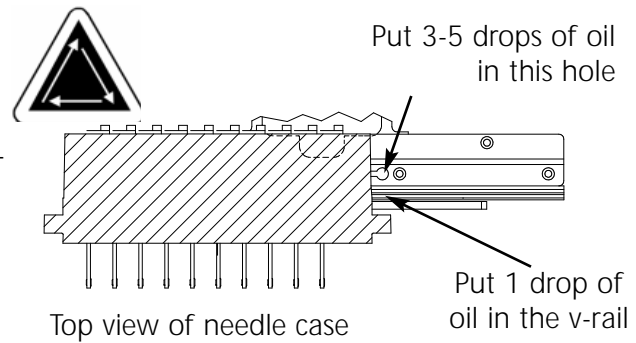
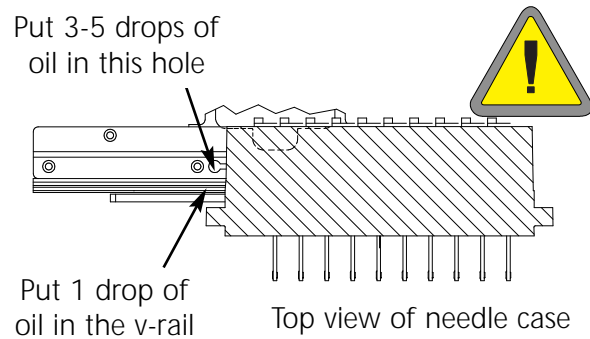

Figure 4-9
Figure 4-10
2. When **needle bar driver/v-rail** displays, press . This moves the needle case to its first position for oiling (needle 1). Refer to Figure 4-9 to lubricate the needle bar driver at needle 1. Also refer to Figure 4-9 to lubricate the v-rail. Put the oil in the v-rail as close to the needle case as possible. To access these areas on the EMT 10/4 or 10/4T, insert the oiler through the hole with the red bushing on the front of the panel. Use a flashlight if needed. Press  to move the needle case to needle 10. Oil the needle bar driver as shown in Figure 4-10. Also, lubricate the v-rail on this side of the head. Press  when done. The head will move back and forth to distribute the oil.